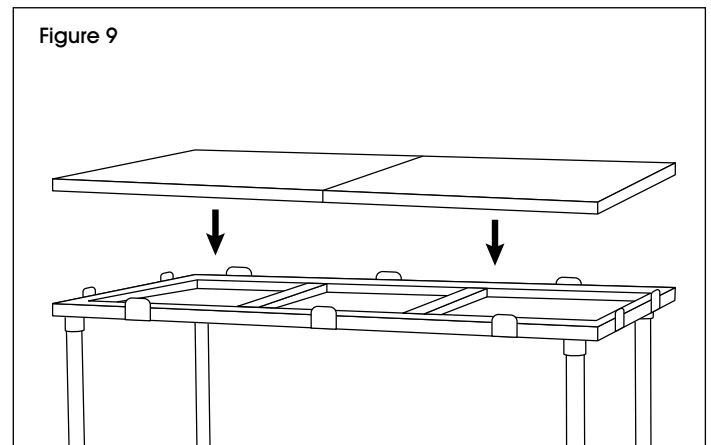

Figure 9
4. Flip table onto casters. Place two-piece poly top onto assembled frame. (See Figure 9)